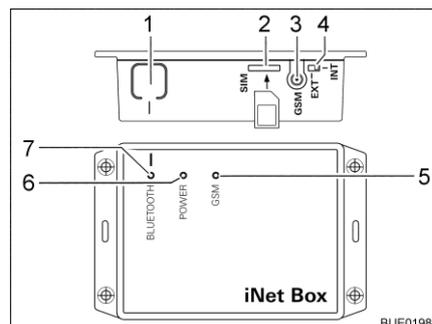

Fig. 251 Truma iNet-Box
- Press the BLUETOOTH button (Fig. 251,1) on the iNet-Box for 1 second. The Truma iNet-Box will be visible in the mobile terminal for approx. 2 minutes (name: "Truma iNet-Box"). During this period, the blue BLUETOOTH LED (Fig. 251,7) will be flashing.
- Carefully insert the mini SIM card with own telephone number and sufficient credit into the slot (Fig. 251,2) of the Truma iNet-Box as shown until it engages. The red GSM LED (Fig. 251,5) must be flashing continuously. If the red LED goes out after 20 seconds: Check mini SIM card.